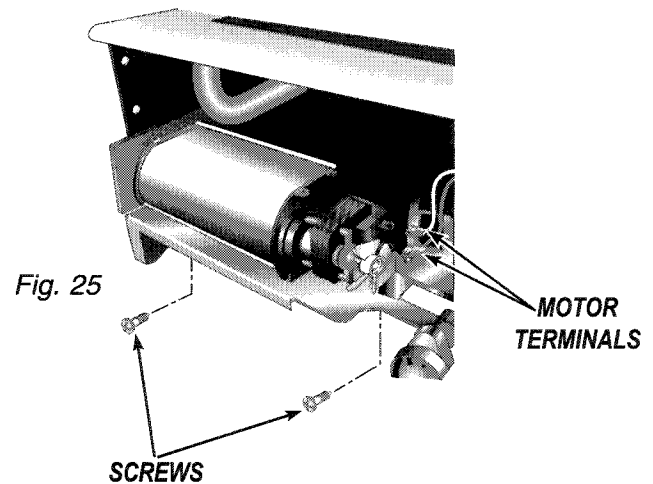

Fig. 25
1. Disconnect the two (2) wiring harness connectors from the terminals of the cooling fan motor.
2. Remove the two (2) screws securing the cooling fan assembly to the rear insulation cover. These screws are located underneath the cooling fan assembly. (Fig. 25)